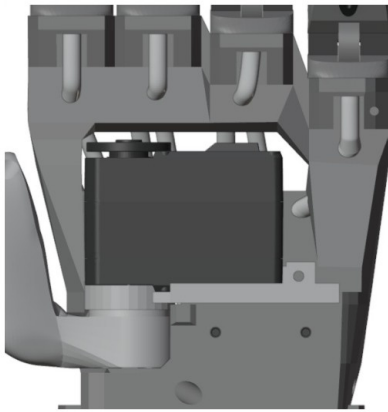
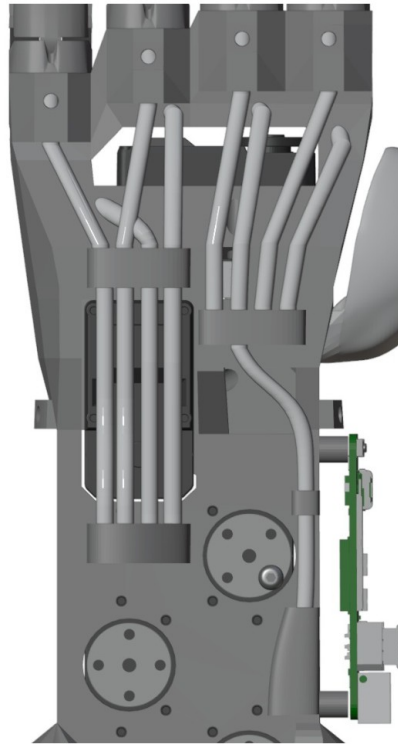

Figure 5.44: Front view with Bowden tubes installed
Figure 5.43: Rear view with Bowden tubes installed
1. On the front of the skeleton, insert the two ends of the nylon needle into the inlet hole in front of the finger slot (figure 5.43) and push them into the PTFE tube below, bringing them out through the outlet hole on the rear of the skeleton (figure 5.42)
2. Insert the flexion end of the tendon into the loop of the nylon needle left outside the inlet hole (figure 5.43) and pull the ends of the nylon needle from the other end of the Bowden tube until the entire tendon comes out of the outlet hole (figure 5.44).